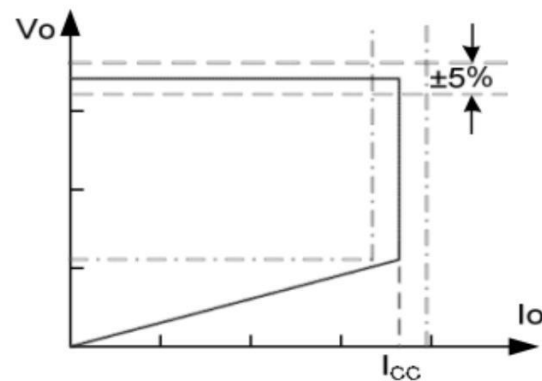

Figure 1. Typical CC/CV Curve
WT5822 is a high performance offline PSR controller for low power AC/DC charger and adapter applications. It operates in primary-side sensing and regulation. Consequently, opto-coupler and TL431 could be eliminated. Proprietary Constant Voltage (CV) and Constant Current (CC) control is integrated as shown in the figure 1 below. In CC control, the current and output power setting can be adjusted externally by the sense resistor R_s at CS pin. In CV control, PFM operations are utilized to achieve high performance and high efficiency. In addition, good load regulation is achieved by the built-in cable drop compensation. The chip consumes very low operation current (typical 300 μ A), it can achieve less than 50mW standby power to meet strict standby power standard.
WT5822 is designed to produce good CC/CV control characteristic as shown in the Figure 1. In charger applications, a discharged battery charging starts in the CC portion of the curve until it is nearly full charged and smoothly switches to operate in CV portion of the curve. The CC portion